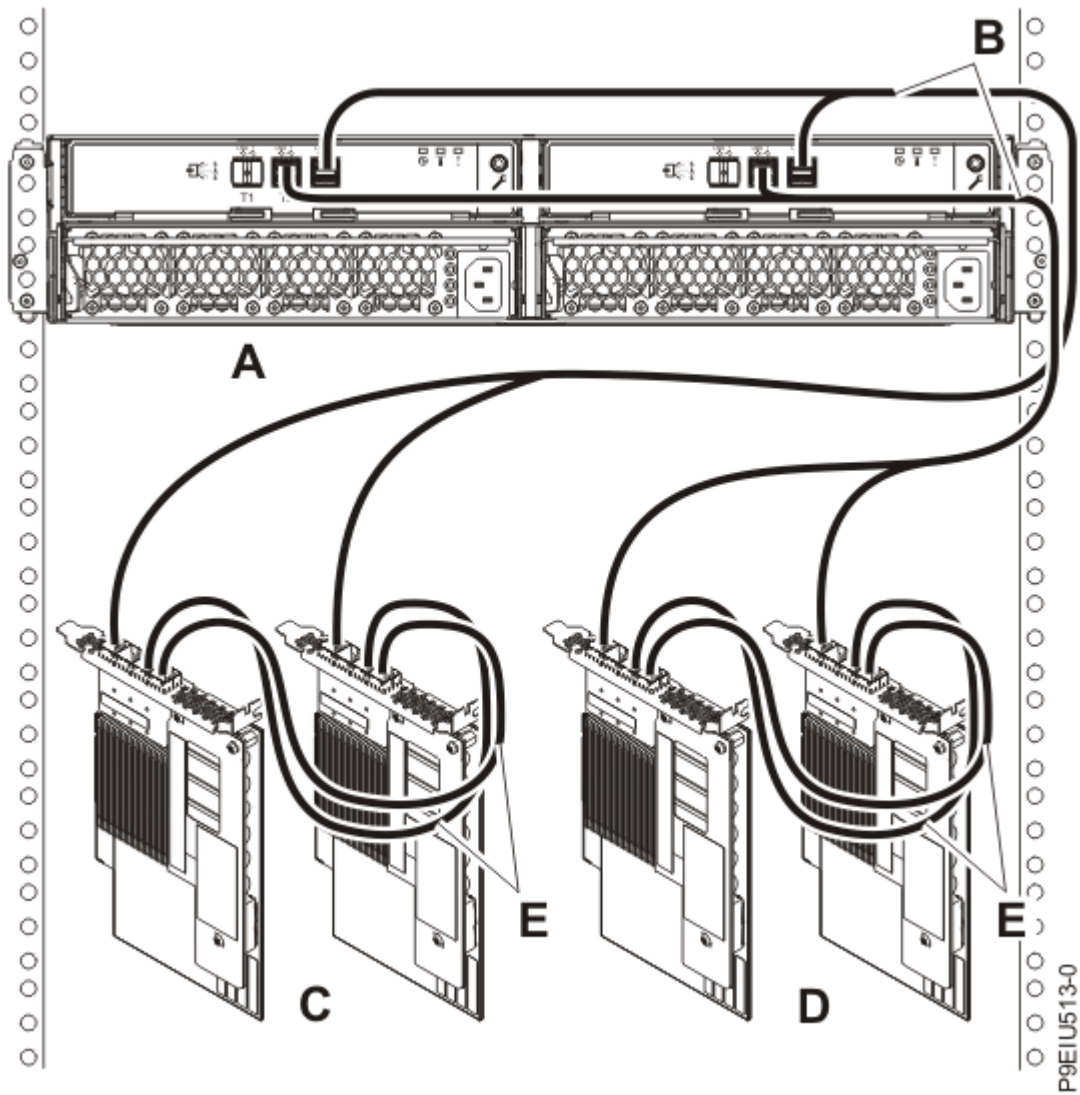

Figure 22: Mode 2 connection of one ESLS by using X12 cables to two FC EJ0L SAS adapter pairs or two FC EJ14 SAS adapter pairs with AA cables
22. Complete a mode 2 connection of one enclosure (**A**) by using X12 cables (**B**) to two FC EJ0L SAS adapter pairs or two FC EJ14 SAS adapter pairs (**C and D**) with AA cables (**E**), as shown in Figure 22 on page 27. Then, continue with “Connecting cables, power cords, and installing covers” on page 29.